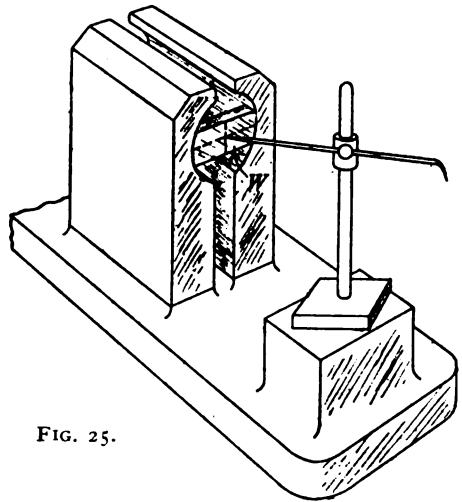
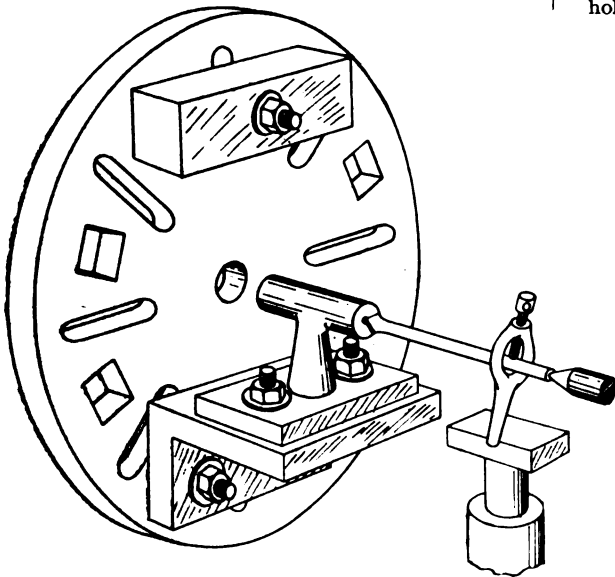
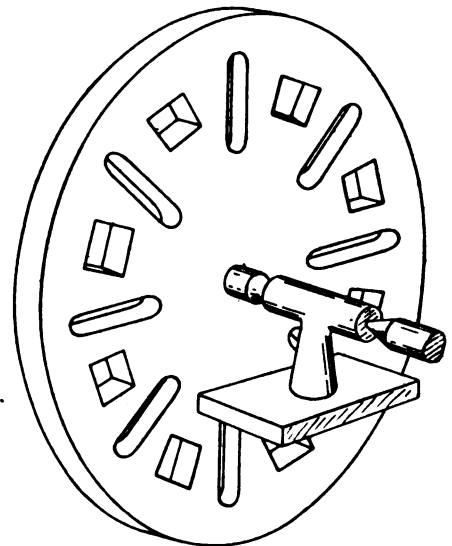

FIG. 25.
FIG. 26.
FIG. 26a.
TO set the scriber to the correct height for the bearing centre, place the surface gauge as shown in Fig. 25. The centre of the magnet tunnel is found by means of a pair of dividers and marked upon a piece of wood (W), which has been wedged tightly into the tunnel as shown. Having set the scriber, the dimensions thus found can be transferred to the bearing, as Fig. 24. Drilling the holes for the spindle so that they will be accurate is a rather difficult operation. The best way perhaps is to use a lathe. Bolt the bearing upon an angle-plate as indicated by Fig. 26. Suspend the bearing between the centres as in the sketch (Fig. 26a), then place the angle-plate in position and bolt it against the face-plate; attach the bearing to it, and finally take away the lathe centres. Drill and finish the hole, using tools as in Fig. 16. Take away the bearing without disturbing the angle-plate, and place the second bearing in position. If drilled and bored true, the height of its centre will be precisely the same as that of the first bearing. The success of the operation depends upon your care in making sure that the hole runs perfectly true. If you file or plane the surface F, instead of facing it in a lathe, the casting should be tested as in Figs. 22 and 23, and the height of spindle centre marked as in Fig. 24. As an alternative, to save repeated trials for height,
to the height of centre as found in Fig. 25. For instance, if the distance as found in Fig. 25 is 2 ins., the line *e* should be marked 2 ins. below the points *p*. You can then file or plane to this line, and the
The top surfaces of the supports PP, Fig. 20, must be flat and in line with each other. They can be tested by means of a straightedge in the same manner as the surfaces AA, Fig. 9. The magnet should also be fitted so that the tunnel is parallel to these surfaces, a method being adopted to suit the particular arrangement of design. For example, it would be possible to machine or file the surfaces PP first, then to mark off centres to the correct height, as in Fig. 25, and scribe a circle at each end to which the tunnel could be machined or filed. If the dummy armature is well made and a good fit in the tunnel, it will show whether the tunnel is in line with the surfaces PP or not when the bearings are tried on. As a clearance space exists between the magnet faces and the armature, however, a final adjustment can be made by filing if the tunnel is slightly out of line. The principal difficulty is fitting the bearings so that they are in line and practically central with the tunnel. This will be achieved by making sure that the surfaces PP are in line with each other and the holes for the spindle at the correct height and true to the seats by following the method described.